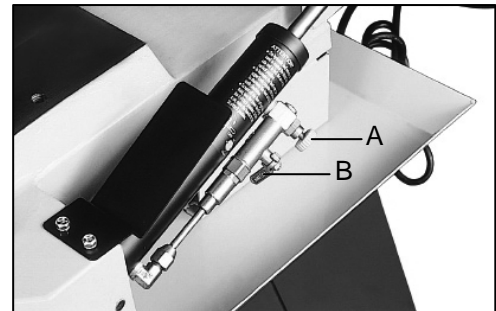

Fig. 4
The hydraulic feed selector is used to control blade feed rate and to lock the bow in the vertical position. To increase the feed rate, turn knob (A, Fig. 4) counter-clockwise. To decrease the feed rate, turn knob (A) clockwise. To turn off the flow of hydraulic fluid, turn lever as in figure 4. To turn the hydraulic cylinder on, raise lever (B) to parallel with the cylinder.